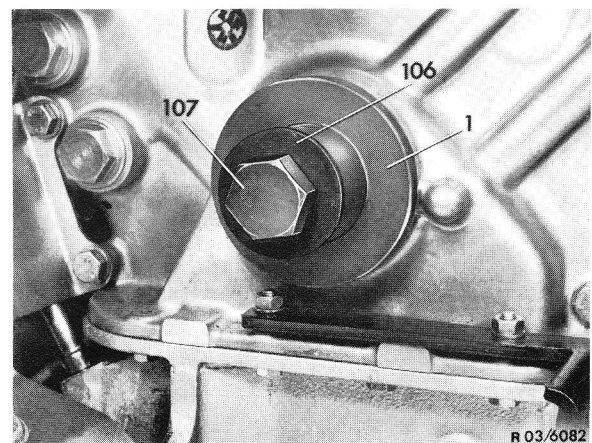

Fig. 2
- 6 Install sealing ring with installation bushing (1) (Fig. 2).